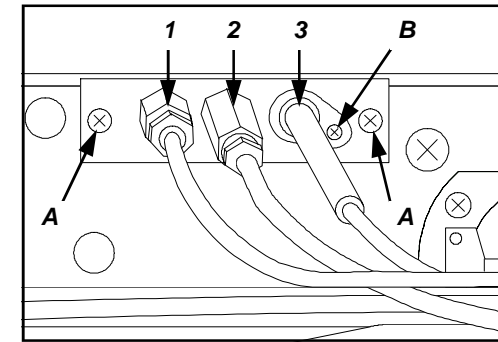

FIG.18 (REPLACEMENT DU THERMOCOUPLE, DE LA VEILLEUSE ET DE LA BOUGIE)
- DÉVISSER LA THERMOCOUPLE AVEC UNE CLEF FIXE SPÉCIALE (FIG.18-RÉF.1);
- DÉVISSER LES 2 VIS DU SUPPORT (FIG.18-RÉF.A); RÉMONTER LA NOUVELLE VEILLEUSE (FIG.18-RÉF.2) SELON LES PHASES SUSMENTIONNÉES;
- ENLEVER LA BOUGIE EN DEVISSANT LA VIS (FIG.18-RÉF.B);
- RÉMONTER LA NOUVELLE BOUGIE (FIG.18-RÉF.3) SELON LES PHASES SUSMENTIONNÉES